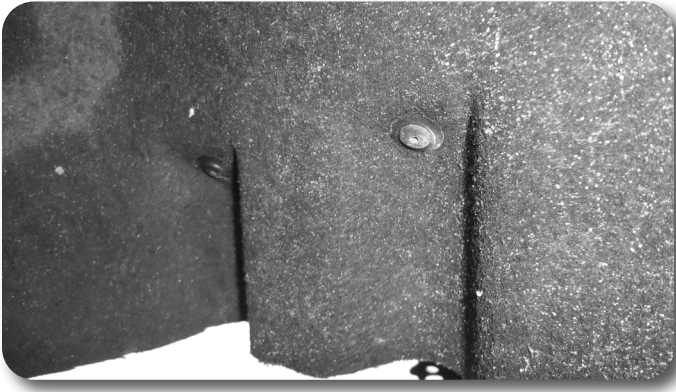
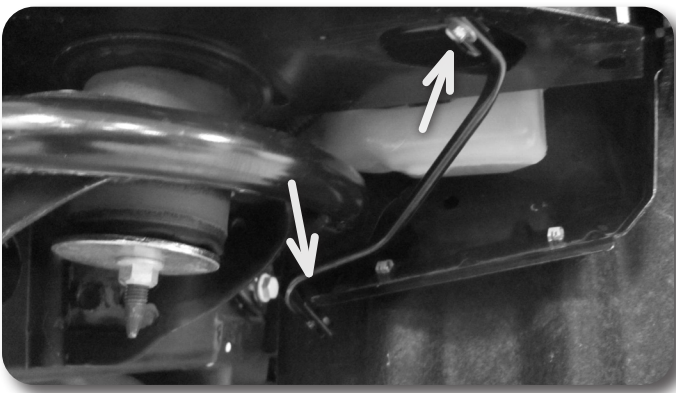

Figure 10A
Figure 10B
12. Remove the two bolts attaching the front of the inner fender to the inner fender supports on both sides of the vehicle. **Figure 10A** Remove the steel support rod that attaches to the inner fender support brackets. **Figure 10B** Discard the steel support rod it will not be reused.